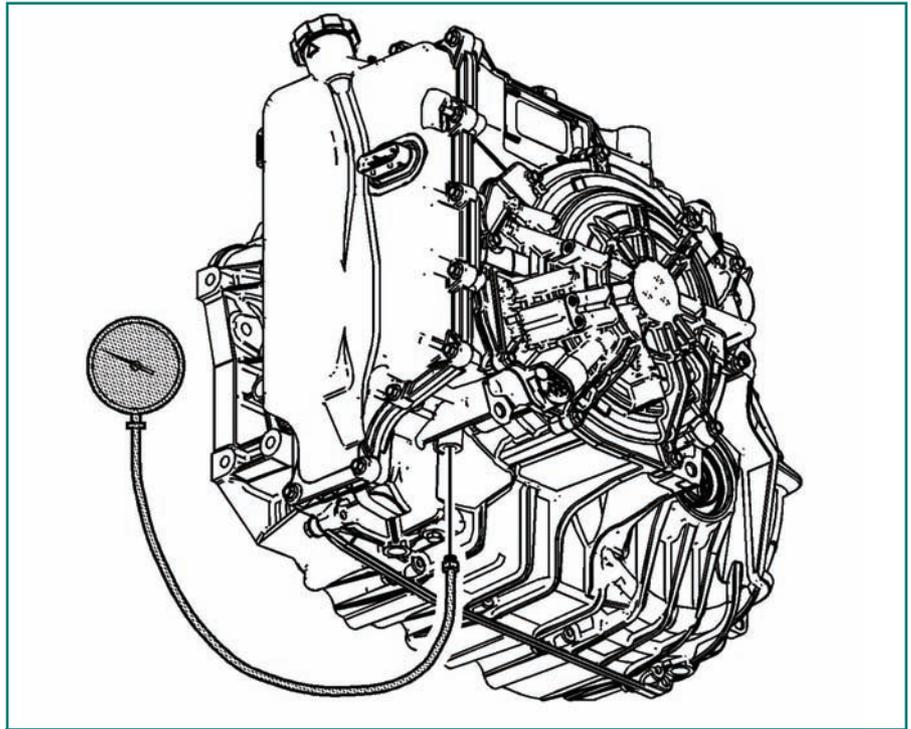

Figure 3
- Install a gauge in the line pressure test port (figure 3).